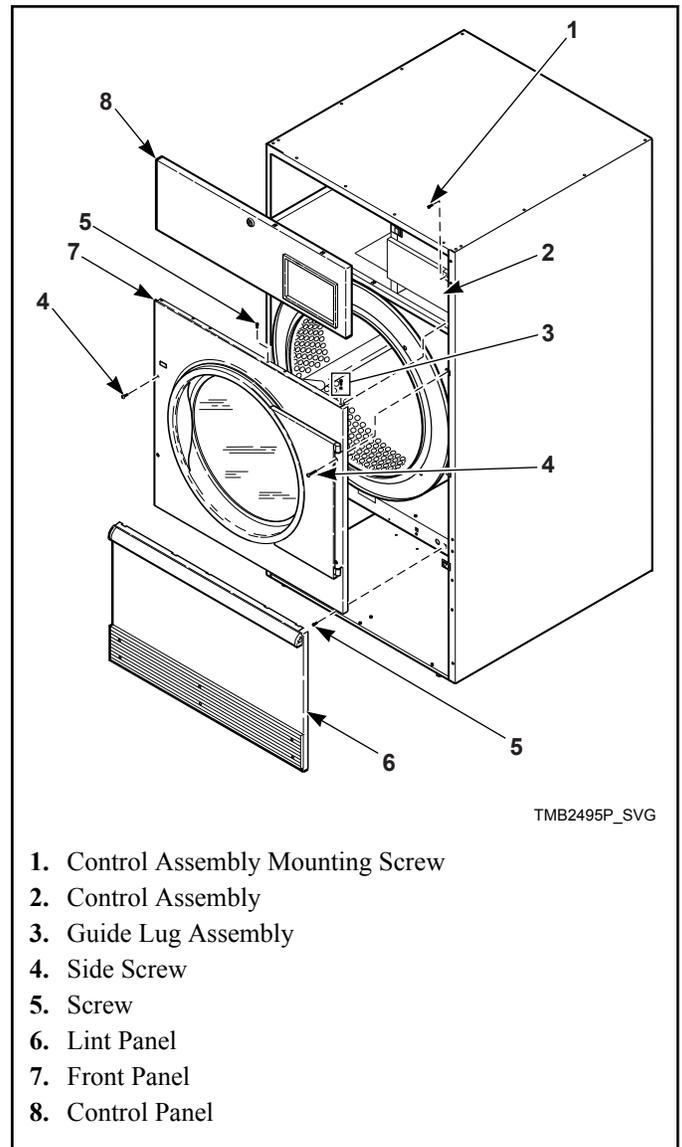

Figure 7
2. Unlock and remove control panel. Remove two control assembly mounting screws from right side. Swing open control to access upper flange right guide lug assembly. Refer to *Figure 7*.
4. Remove four front panel screws. Refer to *Figure 7*. Keep door hinge cams in place on door hinge lug. Pull lug and door assembly off as one piece. Refer to *Figure 8*.
5. Remove remaining front panel screws. Refer to *Figure 7*. Disconnect door switch harness from switch. Take off front panel. Refer to *Figure 8*.